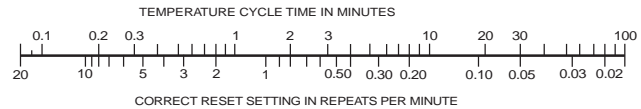

Figure 5. Nomogram II
OR Use Nomogram II (see Figure 5):
- **Direct-control DC types** (see figure 5) in which external contacts, operating in a circuit energized by the same DC power line as is used for the load circuit, control the conduction of a transistor. This type of relay, which is perhaps the simplest of all, and inherently the least expensive, also has the great disadvantage (for most applications) of having no isolation between the control and load circuits.